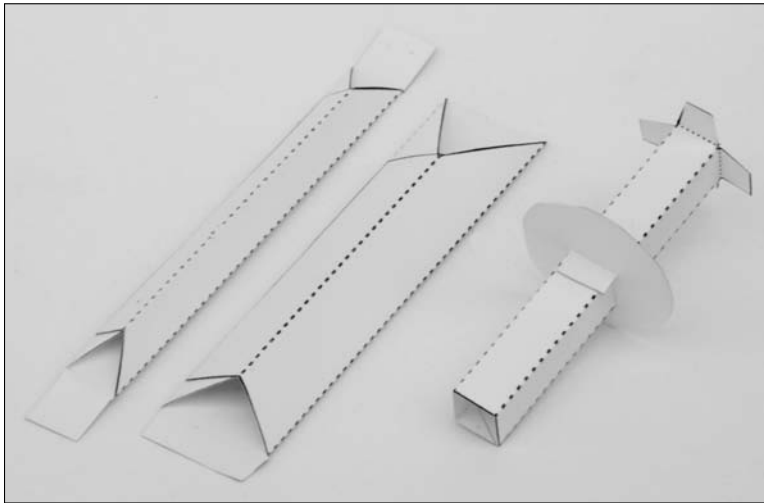

Figure 11-12:
3. Make the camshaft (as in Figure 11-12).
4. Assemble the cam follower and pushrod (as in Figure 11-12).